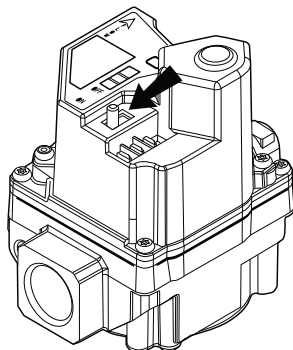

Fig. 16 — Gas Valve Switch - ON
3. Move the switch on all gas valves from the “ON” position to the “OFF” position. See Fig. 16 and 17 for examples of gas valve switch in the on and off positions.